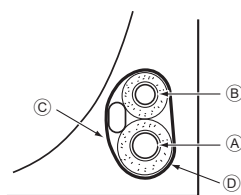

Fig. 4-3
4.3. Refrigerant piping (Fig. 4-3)
4.3.1. Storing in the piping space of the unit (Fig. 4-3)
- D Felt tape ③